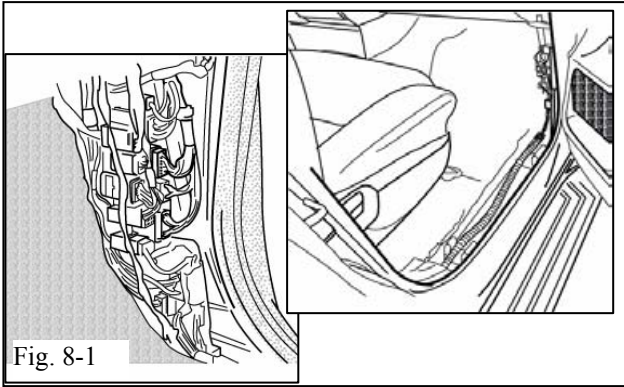
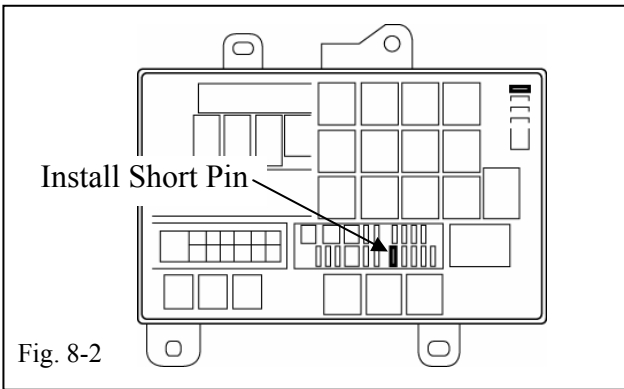

Fig. 8-1
Fig. 8-2
- (a) Reassemble the Vehicle, except for the Passengers Cowl Cover, and Step Cover. (Fig. 8-1)
- (1) Reconnect any disconnected Connectors.
- (b) Install the Short Pin. (Fig. 8-2)